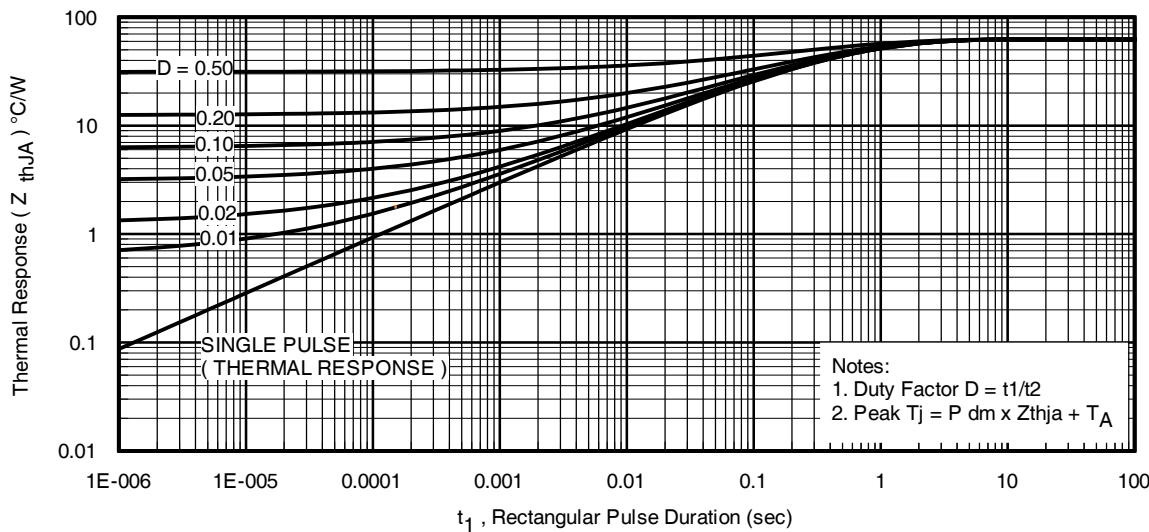

Fig 11. Maximum Effective Transient Thermal Impedance, Junction-to-Ambient
7. ΔT = Allowable rise in junction temperature, not to exceed T_{jmax} (assumed as 25°C in Figure 11, 16).
$Z_{thJC}(D, t_{av})$ = Transient thermal resistance, see Figures 11)